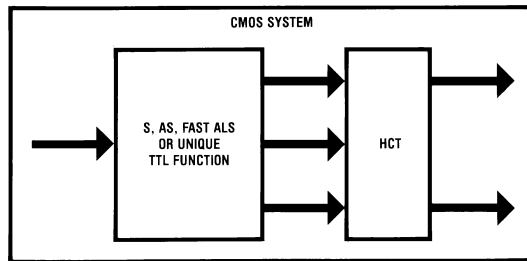

FIGURE 3. A Conceptual Diagram Showing How HCT May Be Used to Interface a Faster ALS Part or Some Unique TTL Function in a CMOS System
2. A second application is, when in speed-critical situations a faster logic element than HC, probably ALS or AS, must be used in a predominantly 54HC/74HC system, or a specific logic function unique to TTL is placed into an HC design. This situation is illustrated in *Figure 3*. In this case, pull-up resistors on an HC input may be sufficient, but if not, then an HCT can be used to provide the guaranteed interface.